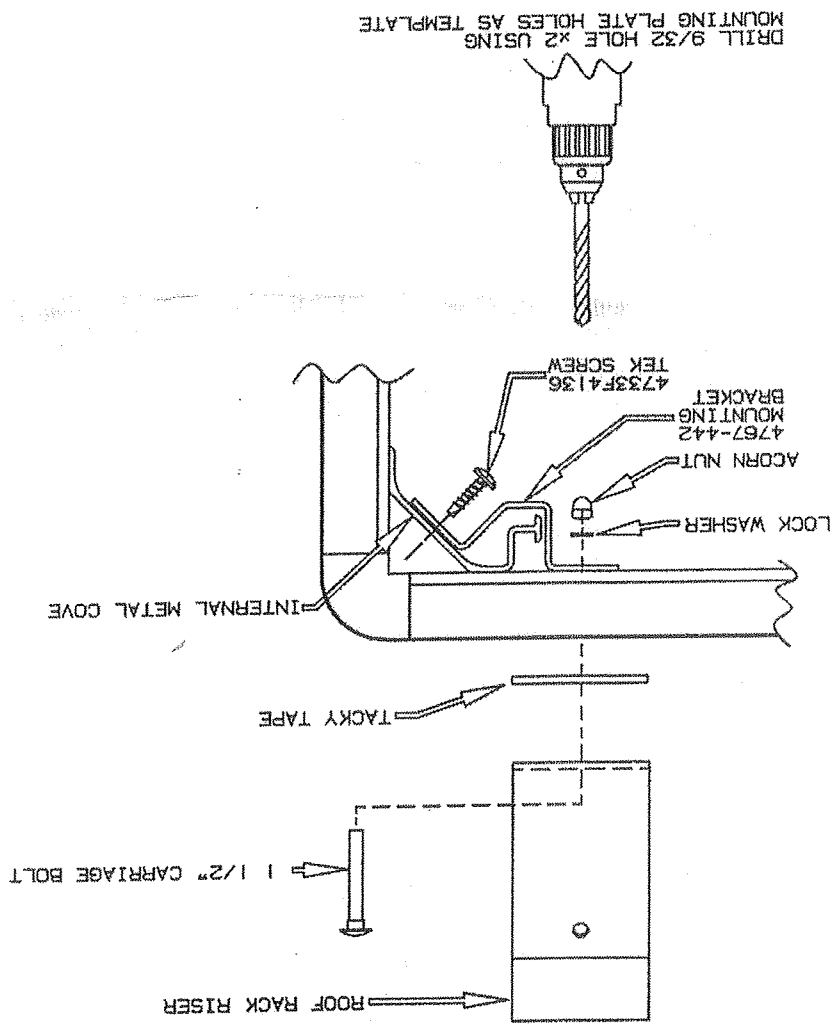

FIGURE 5
5. From each of the pencil marks made in steps 3 and 4, center mounting plates (4767-442) over these marks. Place them securely against the ceiling and valance track as in figure 5.
8. Using a 9/32" drill bit, drill completely up through the top assembly at each bolt location marked in step 7. **DO NOT ANGLE HOLES WHEN DRILLING OR REAM OUT HOLES.** See figure 5.
9. Assemble each roof rack riser with one strip of tacky tape to cover the bottom surface of the riser contacting exterior portion of top assembly and two 1 1/2" carriage bolts per riser. See figure 5.
10. Remove the adhesive backing from the tacky tape on the risers and place the risers on the roof with the carriage bolts inserted in the holes drilled in step 8. See figure 5.
12. Using the Tek screws (4733F4136), attach the opposite end of each mounting plate to the side cove. See figure 5.